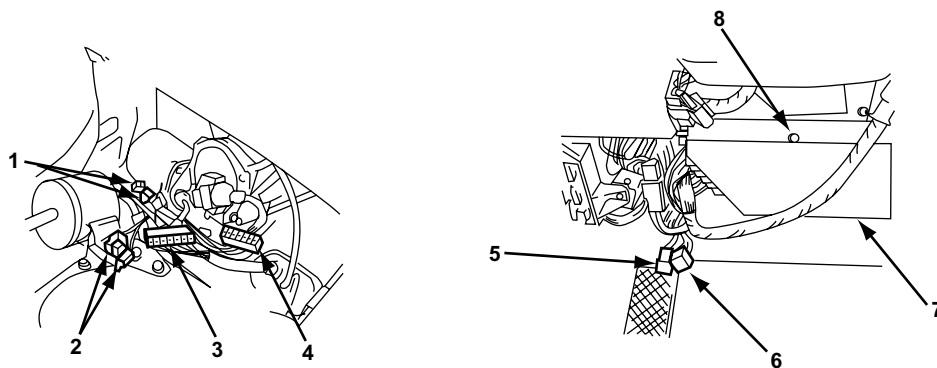

Figure 15-38 1986 SPI connectors
- “1986 SPI connectors” on page 202 (Figure 15-38)